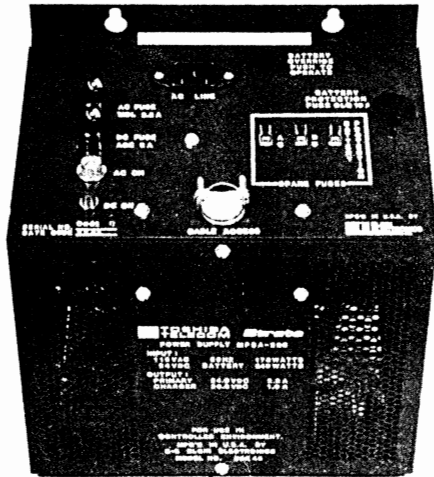

FIGURE 1
01.01 The MPSA-200 is equipped with a reversible, built-in bracket (Figure 1); it is configured at the factory